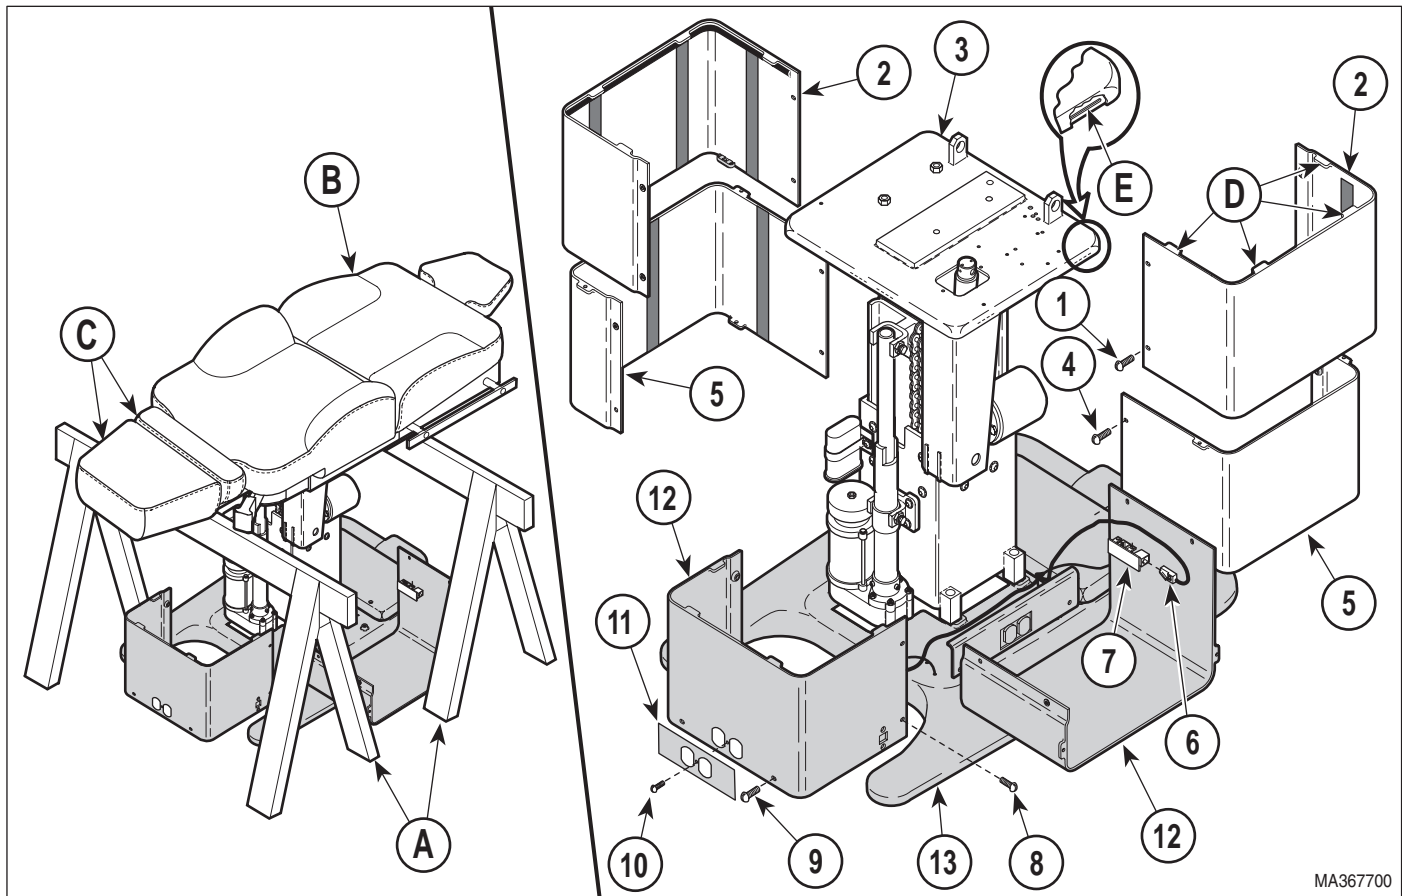
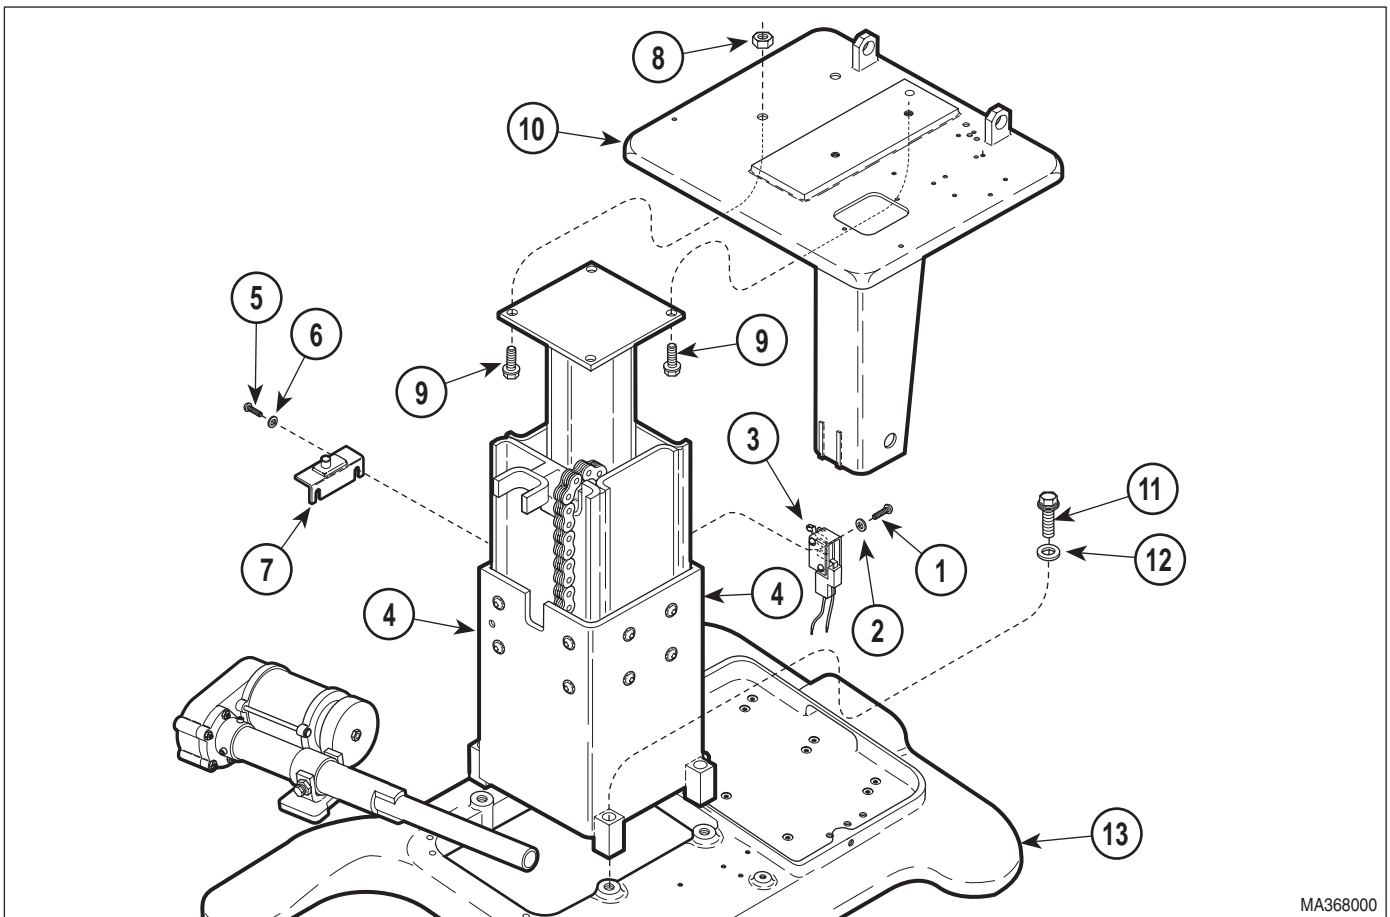

Figure 4-20. Base Shrouds Removal / Installation
Figure 4-23. Column Assembly Removal / Installation
- (3) Unplug table power cord from outlet receptacle.
- (4) Remove four screws (1, Figure 4-20) and R.H. and L.H. outer shrouds (2) from column adapter weldment (3).
- (5) Remove four screws (4) and R.H. and L.H. middle shrouds (5).
- (6) Disconnect one modular cord (6) from each inlet PC board (7).
- (7) Remove four screws (8), four screws (9), two screws (10), two receptacle label plates (11), and partially remove R.H. and L.H. inner shrouds (12) from base casting (13).
- (8) Place supports (A) under back section (B) and foot section (C).
(16) Remove two pivot screws (6) securing base actuator (7) to column assembly (4).
(17) Loosen two jam nuts (8).
(18) Remove two pivot screws (9) and partially remove base actuator (7) from column assembly (4). Allow base actuator to lay off on side.
(19) Loosen three screws (10).
(20) Remove two screws (1, Figure 4-23), lockwashers (2), and base up limit switch assembly (3) from column assembly (4).
- (1) Position column assembly (4, Figure 4-23) in base weldment (13) and secure with four washers (12) and screws (11). Tighten four screws (11) to 50 to 60 ft-lbs (67.8 to 81.4 N•m).
- (6) Install base actuator (7) on column assembly (4) and secure with two pivot screws (9). Tighten pivot screws to 50 to 60 in-lbs (5.6 to 6.8 N•m).
- (7) Tighten two jam nuts (8) to 45 to 55 ft-lbs. (61 to 74.6 N•m).
- (8) Install base capacitor (3) and capacitor strap (2) on column assembly (4) and secure with screw (1).
- (9) Plug table power cord into outlet receptacle.
- (10) Plug modular cord (6, Figure 4-20) into port of inlet PC board (7).
- (13) Secure shaft (A) of base actuator (7) to column assembly (4) and secure with two pivot screws (6). Tighten pivot screws to 50 to 60 in-lbs. (5.6 to 6.8 N•m).
- (14) Tighten two jam nuts (5) to 45 to 55 ft-lbs. (61 to 74.6 N•m).
- (15) Tighten three screws (10) to 17 - 20 ft-lbs (23 - 27.1 N•m).
- (16) Run TABLE UP function to align column assembly (4, Figure 4-23) with column adapter weldment (10).
- (17) Secure column assembly (4) to column adapter weldment (10) with four screws (9) and two locknuts (8). Tighten screws (9) to 50 - 60 ft-lbs. (67.5 - 81.0 N•m).
- (18) Run TABLE UP function up slightly, and remove supports (A, Figure 4-20) from under table top.
- (19) Install base down limit switch assembly (7, figure 4-23) on column assembly (4) and secure with two lockwashers (6) and screws (5).
- (20) Adjust base down limit switch (Refer to para 4.17).
- (21) Install base up limit switch assembly (3) on column assembly (4) and secure with two lockwashers (2) and screws (1).
- (22) Adjust base up limit switch (Refer to para 4.18).
- (28) Wrap cable (10) around pulley (11) in direction shown in illustration until all cable slack is removed. Cable should be able to be wrapped around pulley 2-1/2 to 3 times.
- (29) Connect one modular cord (6, Figure 4-20) to each inlet PC board (7).
- (30) Install R.H. and L.H. inner shrouds (12) on base casting (13) and secure with two receptacle label plates (11), two screws (10), four screws (9), and four screws (8).